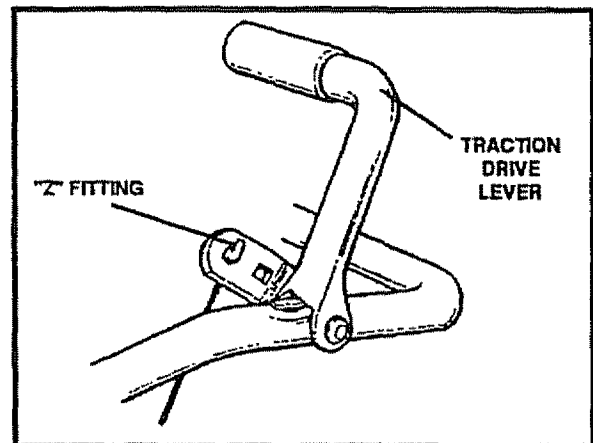

FIG. 3
**NOTE:** If the cables have become disconnected from the clutch levers, reinstall the cables as shown in Fig. 3.